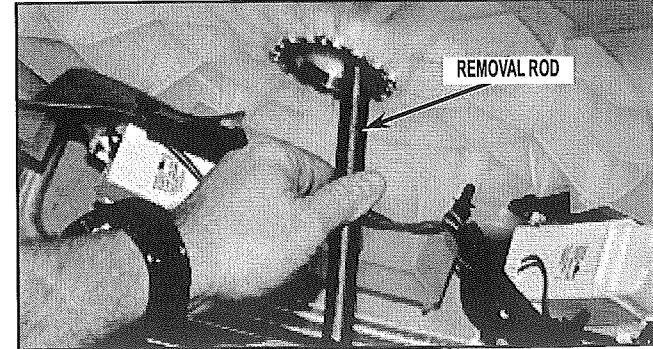

FIGURE 10
- Tip washer back on hoses and drive Top Bearing out using Removal Rod and hammer. Discard all parts. See *Figure 10*.